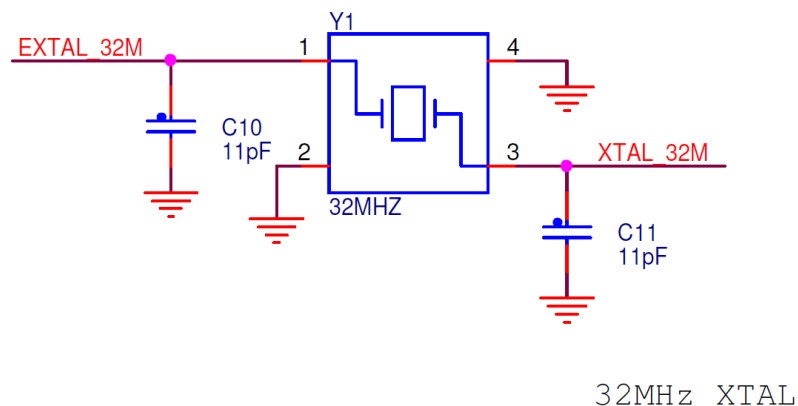

Figure 3-5. USB-KW24D512 32 MHz Reference Oscillator Circuit
- 32 MHz Reference Oscillator — Figure 3-5 shows the external 32 MHz external crystal Y1. This mounted crystal must meet the specifications outlined in the AN3251 application note. The IEEE 802.15.4 Standard requires that the frequency be accurate to less than ± 40 ppm.